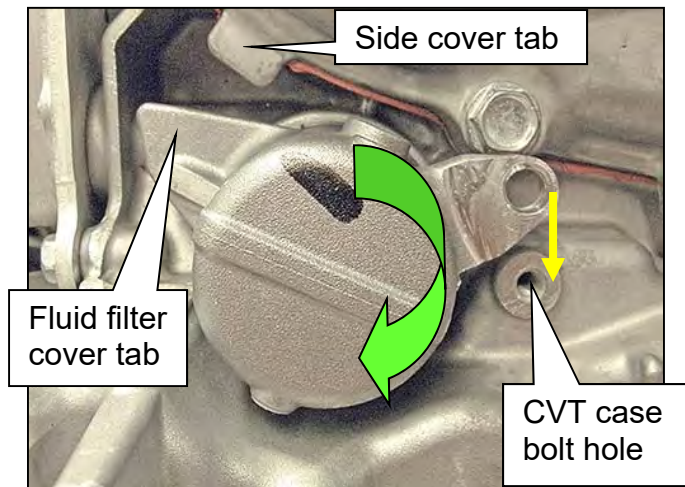

Figure 223
- a. Locate the tab of the fluid filter cover near the tab of the side cover as shown in Figure 223.